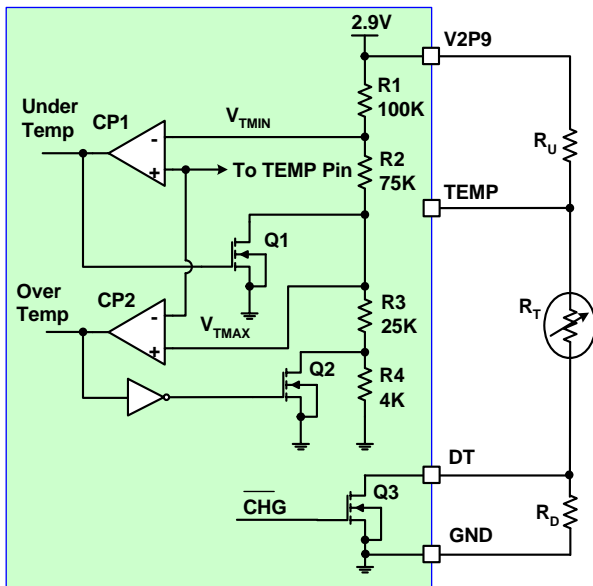
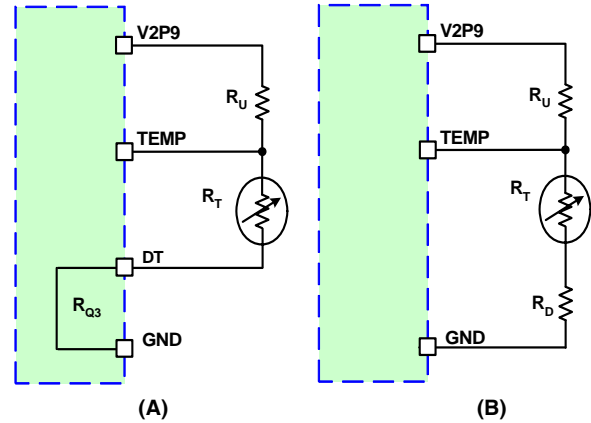

FIGURE 9. THE INTERNAL AND EXTERNAL CIRCUIT FOR THE NTC INTERFACE
FIGURE 10. EQUIVALENT CIRCUITS FOR THE NTC DIVIDER
Figure 9 shows the internal circuit for the ambient temperature sensing function. Two comparators form a window comparator whose high-threshold is V_{TMIN} and low-threshold is V_{TMAX} . These two thresholds are given in the Electrical Specifications. The two MOSFETs (Q1 and Q2) create a hysteresis for each comparator, respectively. The DT pin is shorted to GND via the internal Q3 MOSFET when the charger is not charging, resulting in the equivalent circuit shown in Figure 10 (A). The on-resistance of Q3 is typically 50Ω and is negligible compared to the external resistors. When the charger starts to charge, Q3 is turned off to set a higher temperature range determined by the external resistor R_D . The equivalent circuit is shown in Figure 10 (B). The DT pin provides a higher shut down ambient temperature during the charger operation.
As the temperature falls, the TEMP pin voltage rises. When it exceeds the $2.0V$ V_{TMIN} threshold, an under temperature condition exists. This condition does not clear until the TEMP pin voltage falls back below the threshold minus the hysteresis voltage (V_{TMIN-}). Similarly, an over-temperature condition exists when the TEMP pin voltage falls below the $0.714V$ V_{TMAX} threshold and does return to normal temperature operation until the voltage rises above the threshold plus the hysteresis voltage (V_{TMAX+}). The actual accuracy of the $2.9V$ supply voltage is **not important** because all the thresholds and the TEMP pin voltage are ratios determined by the resistor dividers, as shown in Figure 9.